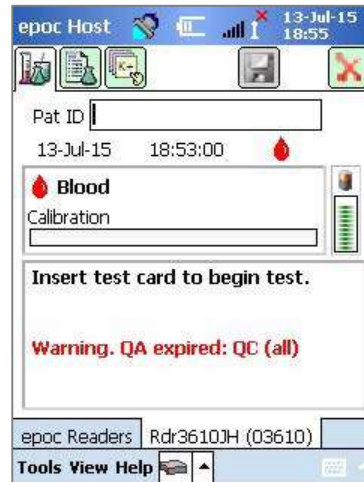

Fig. 40.
- During the grace period, a warning will appear each time a blood test is run, indicating that the schedule is expired (Fig. 40).